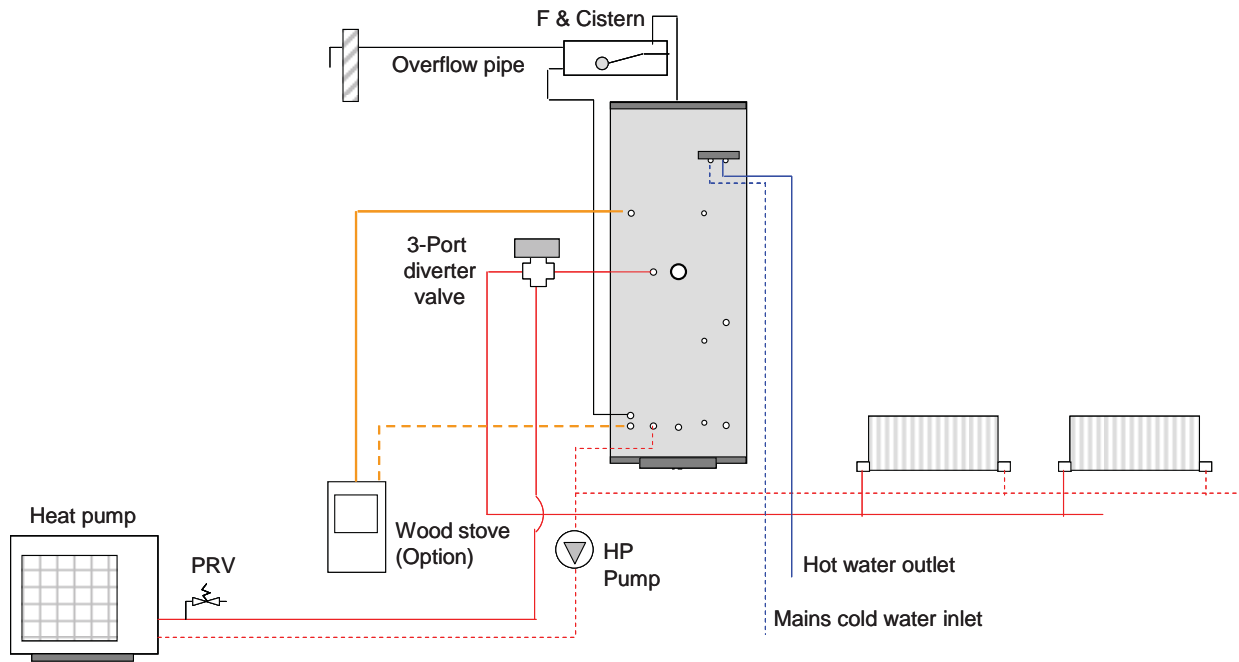
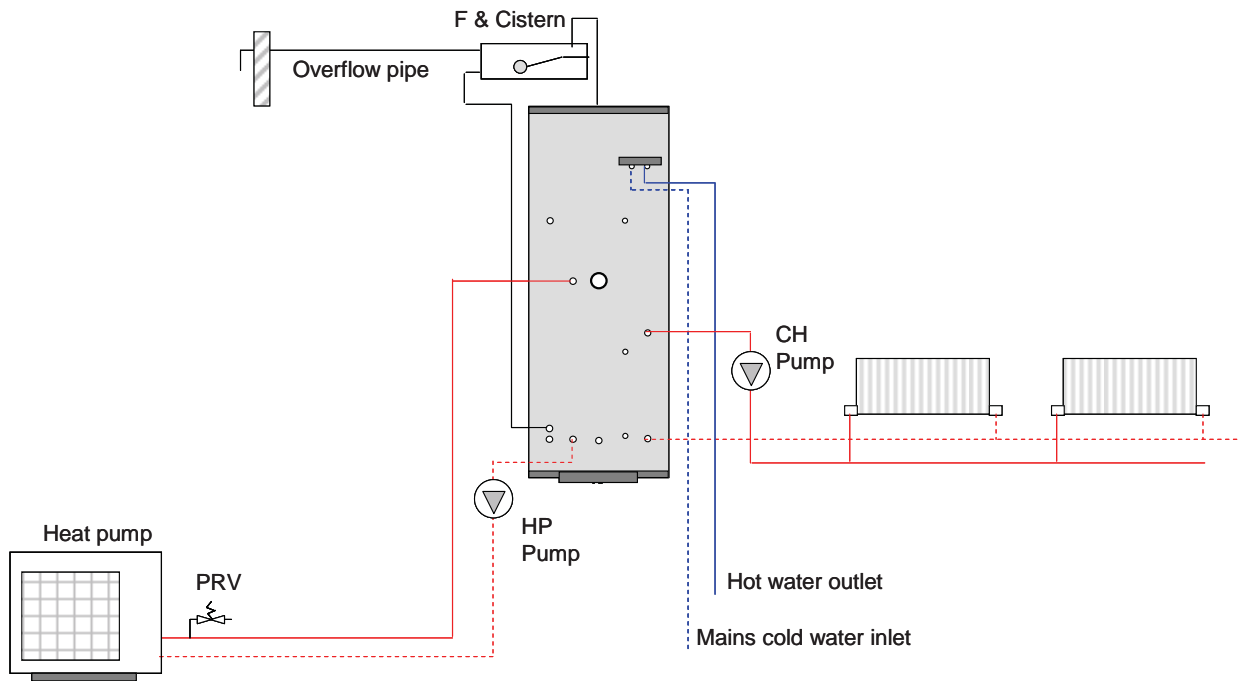

Figure 6: Typical TorrentHP system configuration with an optional wood burning stove and central heating supplied directly from the heat pump.
Figure 7: Typical TorrentHP system configuration with central heating supplied from a thermal store
The Torrent MultiFuelStore HP models are designed to be heated directly by the heat pump and the central heating can be supplied directly from the heat pump as shown in figure 6 or from a thermal store as shown in figure 7.
The Torrent MultiFuelStore HP models are designed to be heated directly by an air or a ground source heat pump and the space heating can be supplied directly from the heat pump circuit as shown in figures 6 and 8 or from the thermal store as shown in figures
- If the heat pump requires a buffer for operation; for example to reduce rapid cycling etc, then the system would benefit if the heating system is supplied from the thermal store (figures 7 and 9). In this configuration, the operation of the heat pump is only controlled by the store thermostat(s).
- If the heat pump is multi-stage or modulating type or has weather compensating controls, then the space heating circuit should be supplied directly from the heat pump as shown in figures 6 and 8. In this system configuration, the thermal store is only used for producing hot water.
Where the whole of the heating system is supplied from the thermal store, figures 7 and 9, then a ballvalve and overflow should be fitted in the feed and expansion tank.
Where the heat pump supplies the heating circuit directly, figures 6 and 8, then fitting a ballvalve and overflow is optional if it is practical on occasions to manually fill the store. However, fitting a ballvalve and overflow will eliminate the need for the householder to undertake this task and is therefore preferable. If the siting of the Torrent MultiFuelStore HP makes it difficult to fit an overflow then the 'manual fill' option can be used. In all cases, if a ballvalve is fitted, then an overflow/warning pipe must always be fitted.